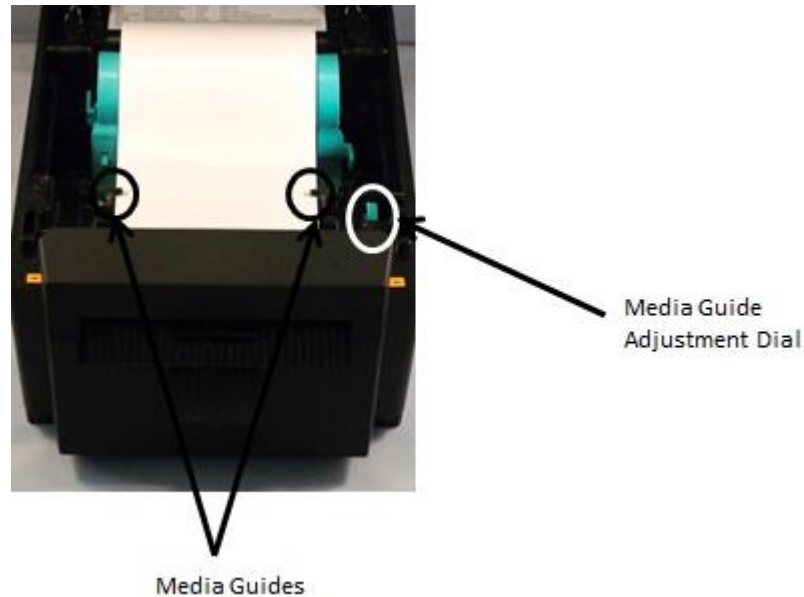

**Figure 13: Hooks and Slots on Label Printer**
**9.** Reattach the Linerless Cutter Block to its original position on the front of the printer as follows (**see Figure 13**):